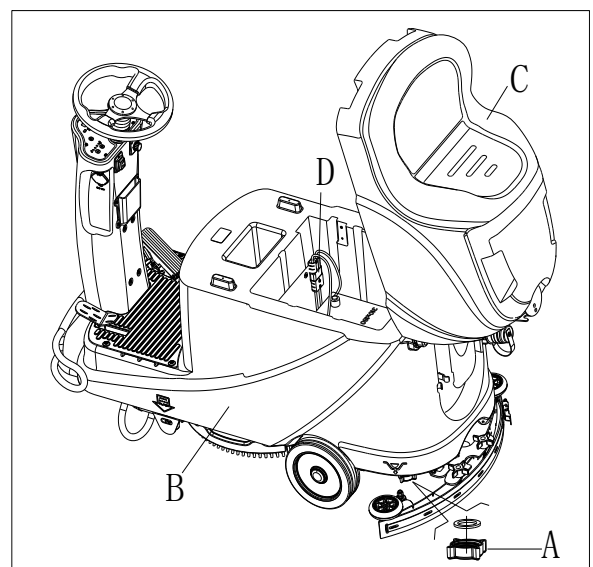

Figure 15
7. Empty the solution tank through the outlet cover (A, Figure 15). Then, rinse the tank with clean water.
2. Empty the tanks (B and C, Figure 15) as shown in previous paragraph.
2. Disconnect the battery connector (D, Figure 15).